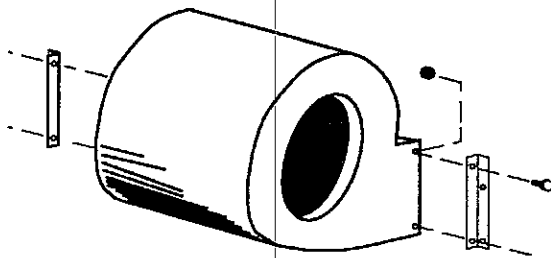

Figure 1
- 1.) Fasten the right and left side angle brackets to the circulation blower using 4 - 1/4" bolts and nuts. (Figure 1, Page 5)
- 1.) Fasten the right and left side angle brackets to the circulation blower using 4 - 1/4" bolts and nuts. (Figure 1)